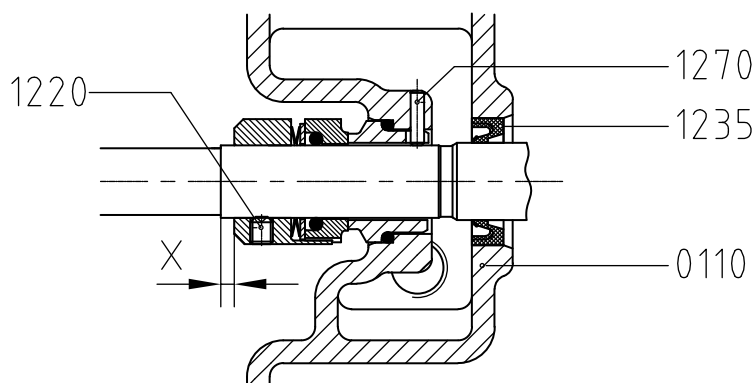

Figure 15: Adjusting the mechanical seal M7N.
- 6 Adjust the rotating part of the mechanical seal to distance X (see figure 15 and corresponding table) and lock it by fixing the set screw (1220).